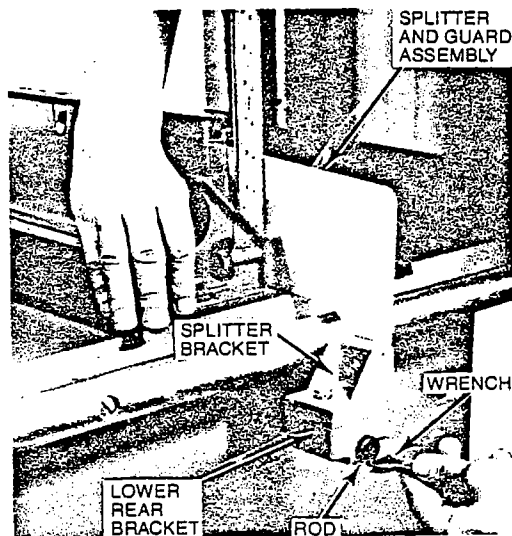

FIGURE 6
5. Insert threaded end of rod (Figure 6) through hole in casting and carriage at rear of machine.